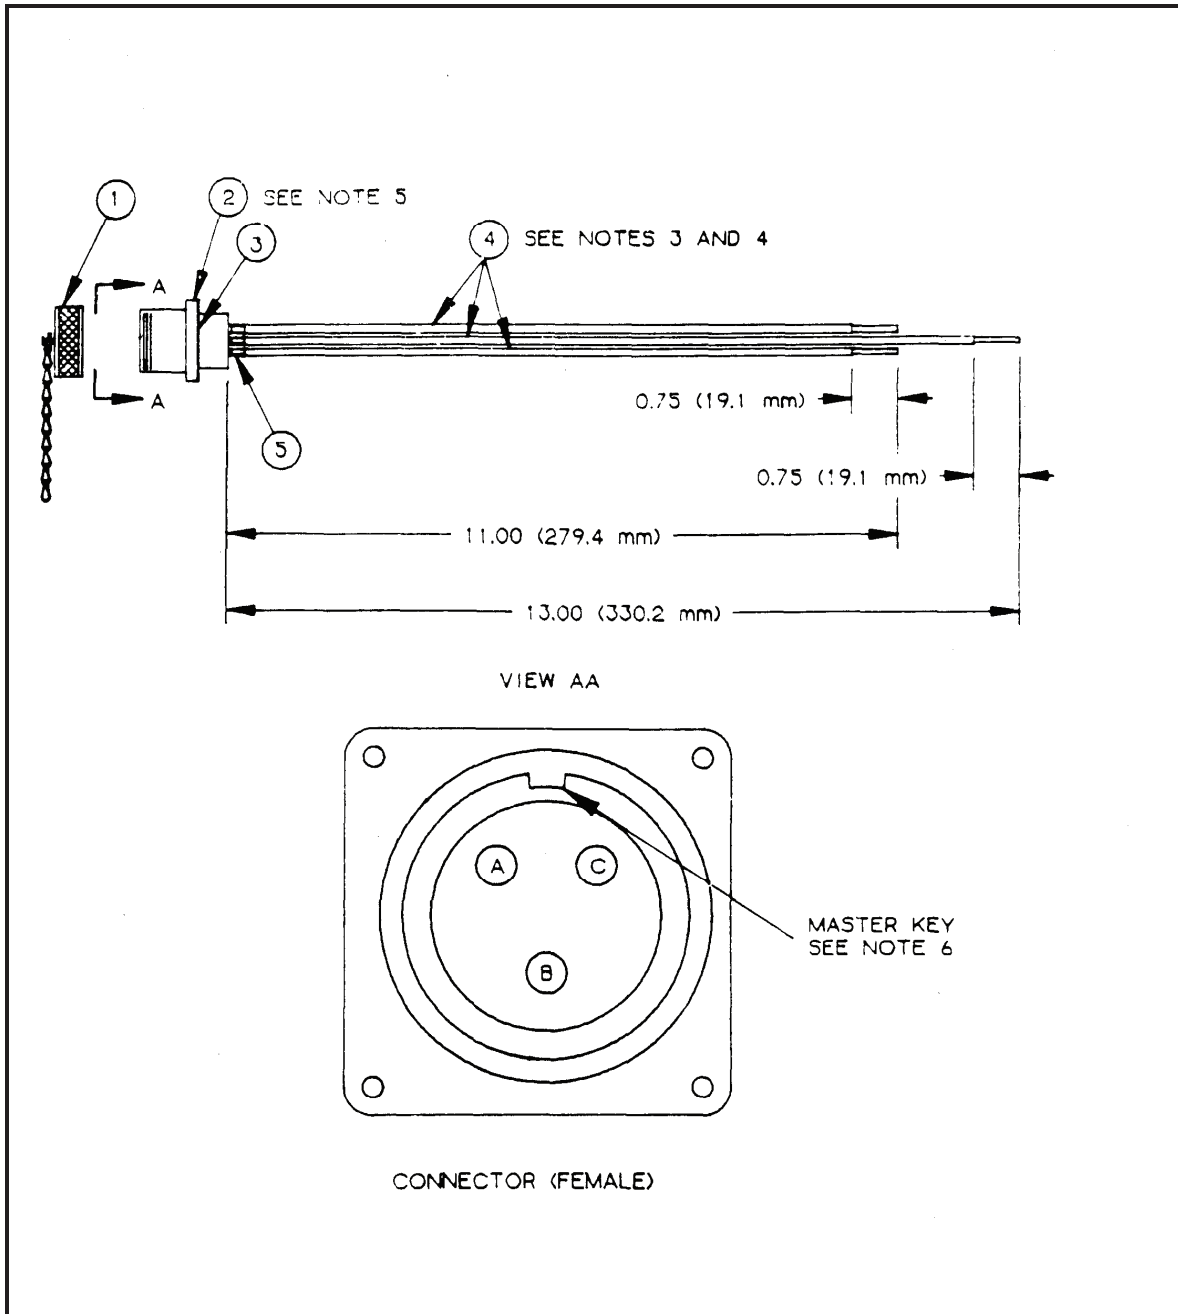

Figure F-12. Distribution Center Output Connector Assemblies, 20-Amp.
Component Legend for Figure F-12
c. Electrical connector (Figure F-12, Item 2) is furnished with the following: